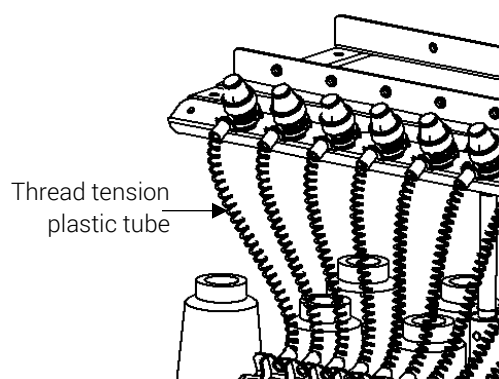

Figure 49
7. Remove the thread tension plastic tube. See Figure 49.